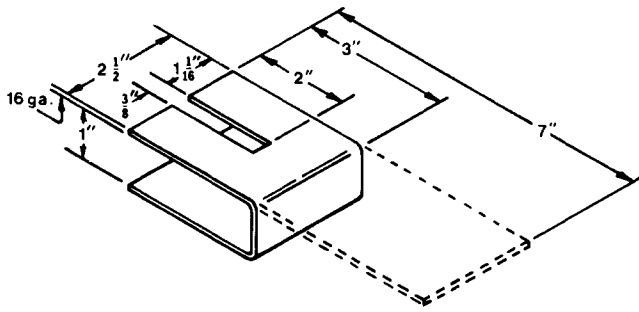

FIGURE 5 Brush Holder Tool
5. To keep brushes in position so that they will fit over the commutator as the end cap is reinstalled, use a brush holder tool which can easily be cut out of thin sheet metal. See Figure 5.